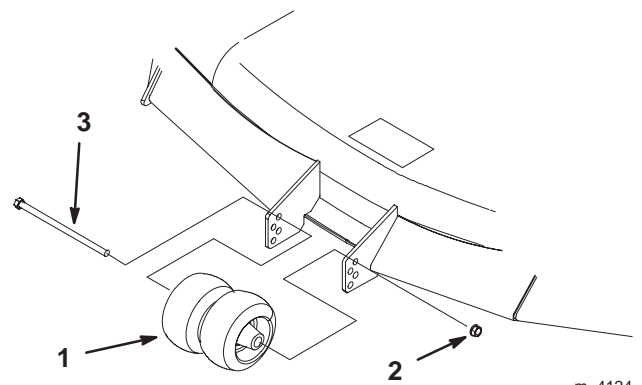

Figure 20
3. After adjusting height-of-cut, remove bolt and nut (Fig. 20).
4. Select hole so gage wheel is positioned to the nearest corresponding height-of-cut desired (Fig. 20).
5. Reinstall the bolt, center rollers and nut (Fig. 20).